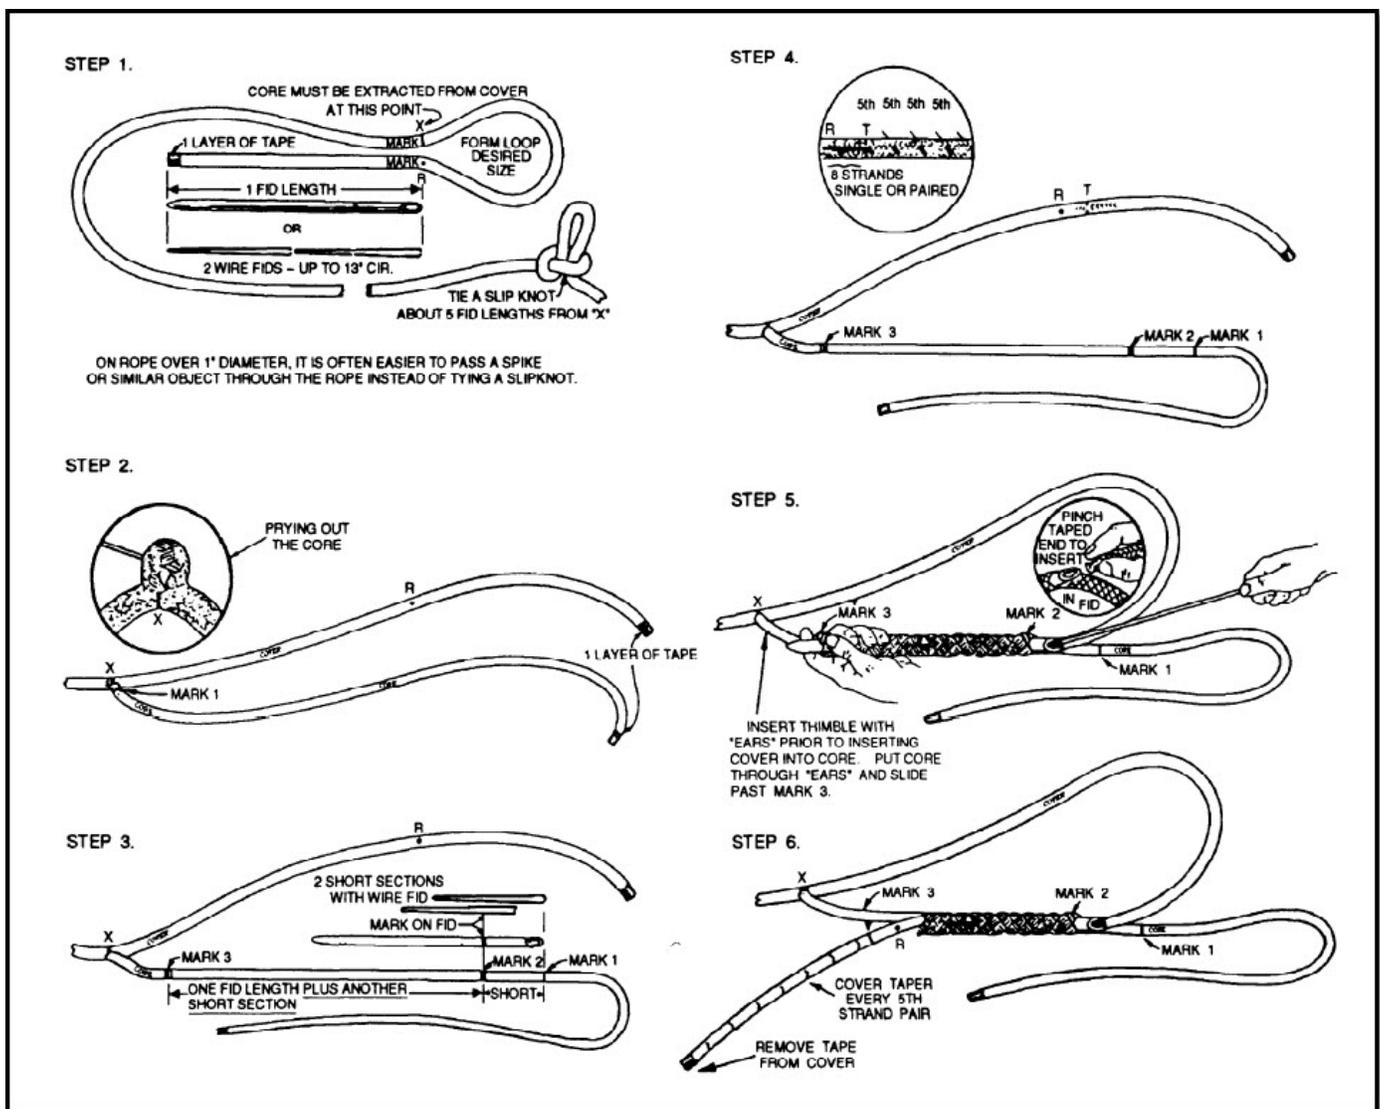

Figure 2-14 Completing the double-braided eye splice
1. Tape the end to be spliced with one thin layer of tape. Then measure one tubular fid length (two wire fid lengths, because wire fid is 1/2 size) from the end of the line and mark. (This is point R [reference], step 1 of figure 2-14.) From R, form a loop the size of the eye desired and mark. (This is point X, where you will pull the core out of the cover.)